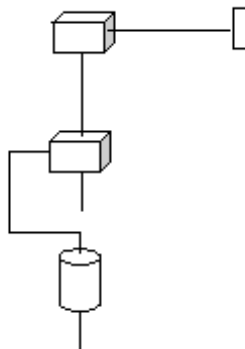

Figure 7
7. Solve the inverse kinematics for the cylindrical arm shown in Figure 7. [16]